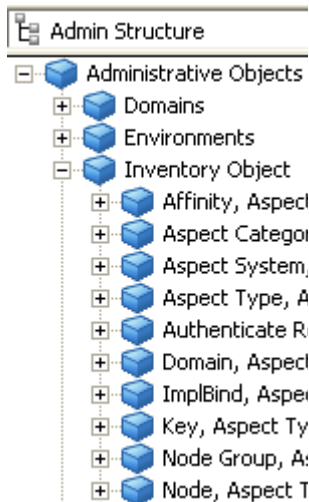

Figure 25. Permission Object
2. Expand the Permission object. All default Permissions are listed below. See Figure 25.